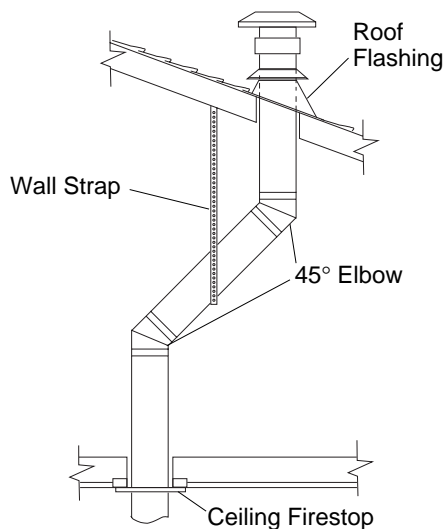

Figure 20 - Offset with Wall Strap and 45° Elbows
1. Determine the route your vertical venting will take. If ceiling joists, roof rafters, or other framing will obstruct the venting system, consider an offset (see Figure 20) to avoid cutting load bearing members. **Note:** Pay special attention to these installation instructions for required clearances (air space) to combustibles when passing through ceilings, walls, roofs, enclosures, attic rafters, etc. Do not pack air spaces with insulation. Also note maximum vertical rise of the venting system and any maximum horizontal offset limitations. Offsets must fall within the parameters shown in Figure 8 on page 6.
Note: If an offset is needed to avoid obstructions, you must support the vent pipe every 3 feet. Use wall straps for this purpose (see Figure 20). Whenever possible, use 45° elbows instead of 90° elbows. The 45° elbow offers less restriction to the flow of the flue gases and intake air.
5. Place the flashing over the pipe section(s) extending through the roof. Secure the base of the flashing to the roof and framing with roofing nails. Be sure roofing material overlaps the top edge of the flashing as shown in Figure 20. There must be a 1" clearance from the vent pipe to combustible materials.